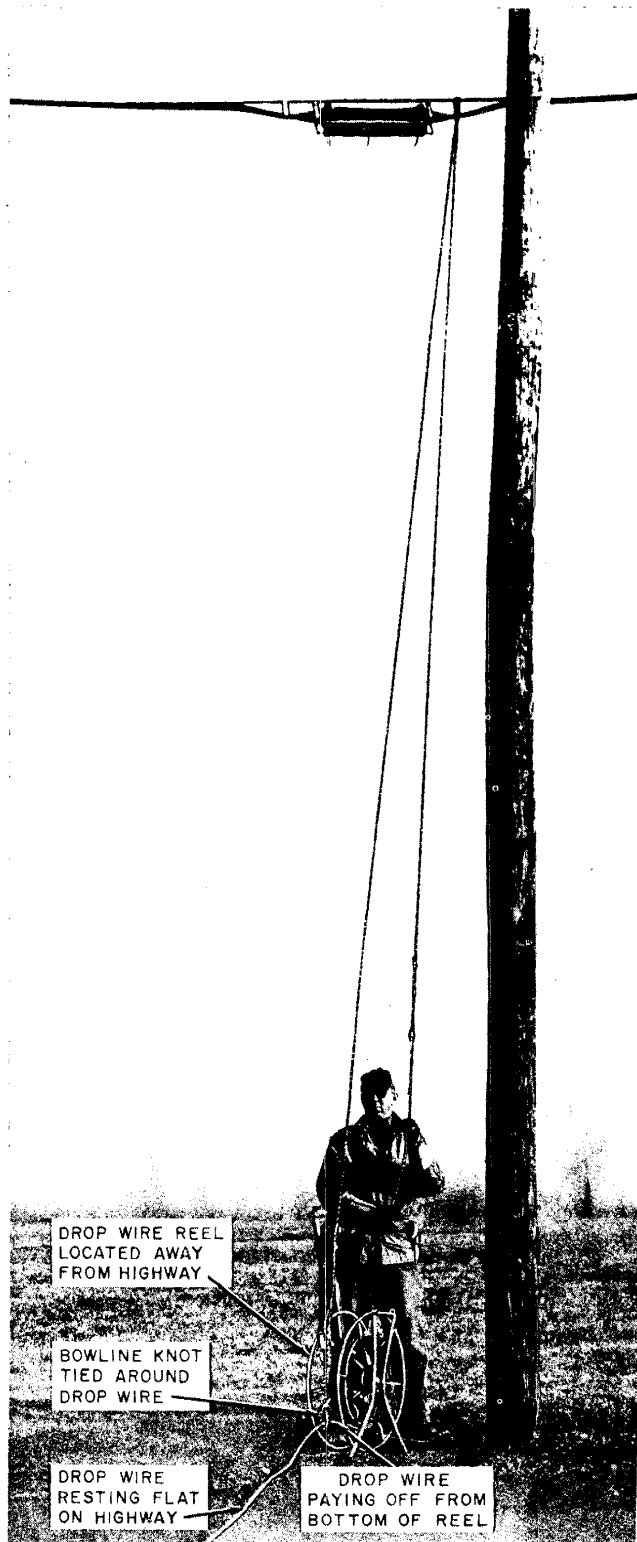
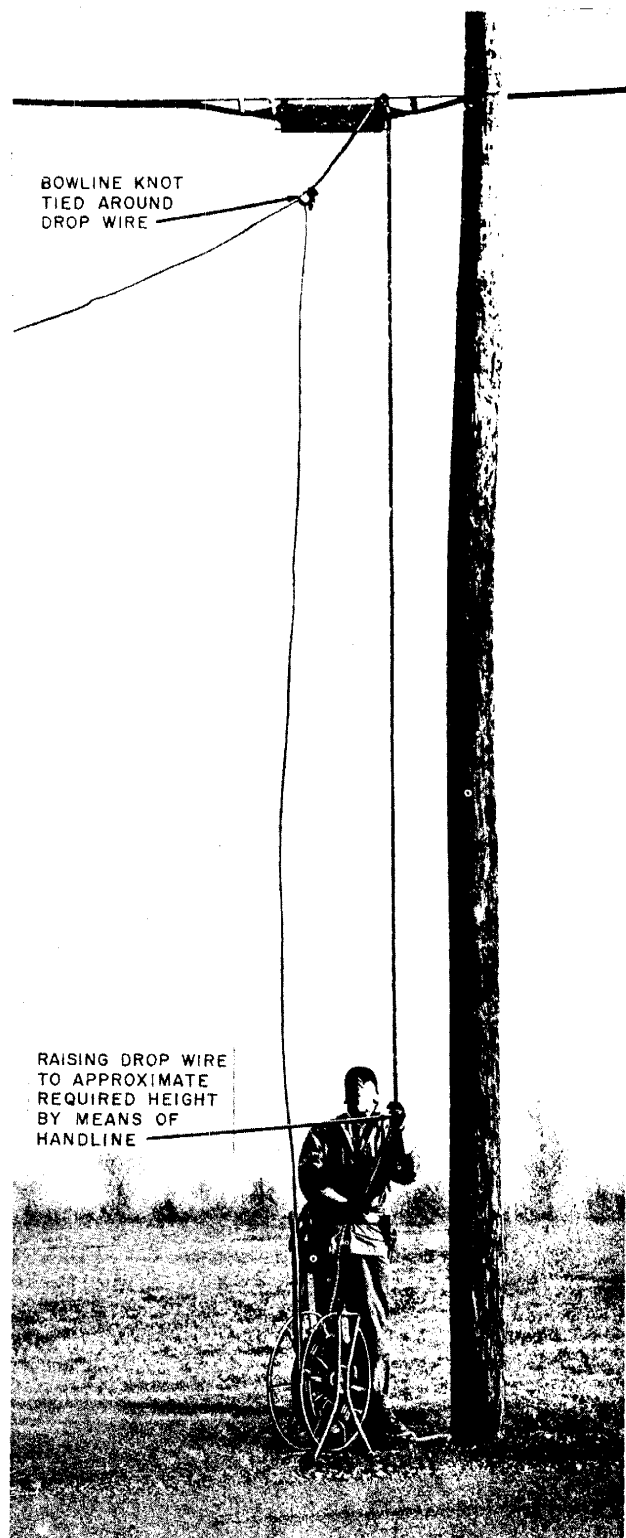

Fig. 3 — Bowline Knot Placed Around Drop Wire
Fig. 4 — Raising Drop Wire
(5) Release the handline from the base of the pole or ladder and tie a bowline knot in the end of the handline toward the building and around the drop wire at the reel as shown in Fig. 3, being careful not to raise the wire above the highway. Wind any excess length of drop wire on the reel.
(6) Set the brake of the drop wire reel so that when the wire is raised by the handline there will be sufficient tension on the wire to enable it to be pulled up to the approximate required height in the span over the street or highway.
(7) After checking to make sure that the drop wire reel is in a stable position and that its brake is properly set, grasp the free end of the handline. When no vehicles or pedestrians are approaching, raise the drop wire as shown in Fig. 4. If it is necessary to remove excess slack from the wire span as it is being raised, pull the wire at the reel end to obtain the desired slack and wind the excess length of wire on the reel.